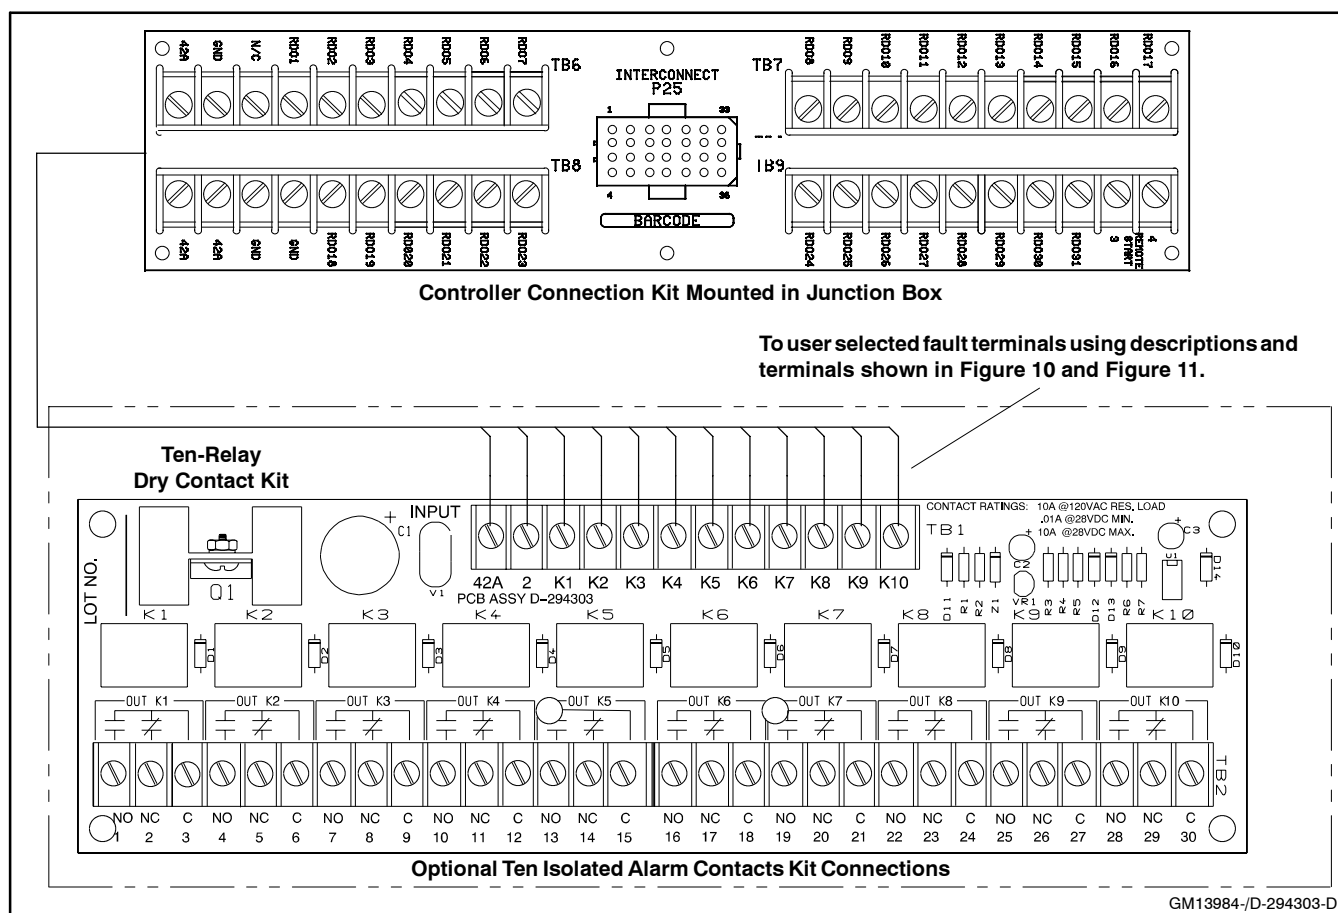
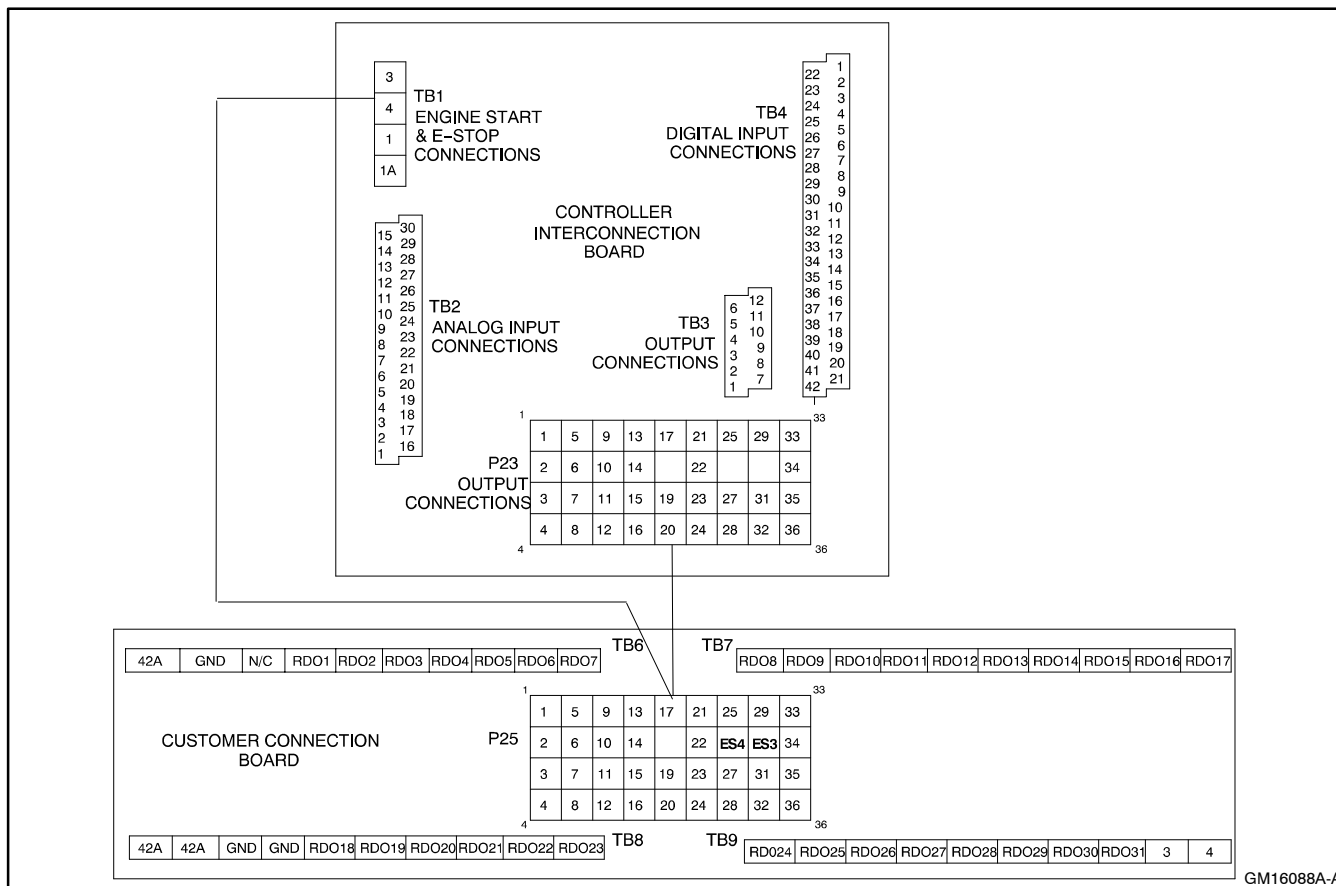

Figure 9 Ten-Relay Dry Contact Relay Kit Connections
Figure 10 Controller Connection Assembly
5.3.2 Connect the 12-lead dry contact relay wiring harness (GM16755) to the ten-relay dry contact kit relay input terminals. See Figure 9 for connection information.
5.4.2 Connect the 12-lead dry contact relay wiring harness (GM16756) to the ten-relay dry contact kit relay input terminals. See Figure 9 for connection information.
Connect the ten-relay dry contact wiring harness to the controller connection assembly in the junction box. See Figure 9. Leads 42A and N provide power to the relay. The user must select up to ten fault terminals for connecting the K1–K10 signal leads. See Figure 10 and Figure 11 for terminal connections.